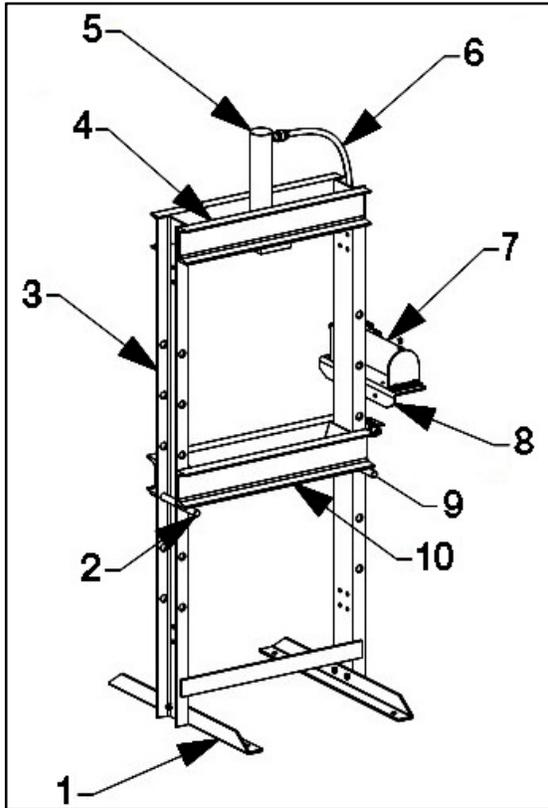

Fig. 1: Freestanding model component identification
2. Attach one of the angle feet to each side and fasten them with the supplied 3/8" X 1" bolts and 3/8" nuts (Fig. 1).